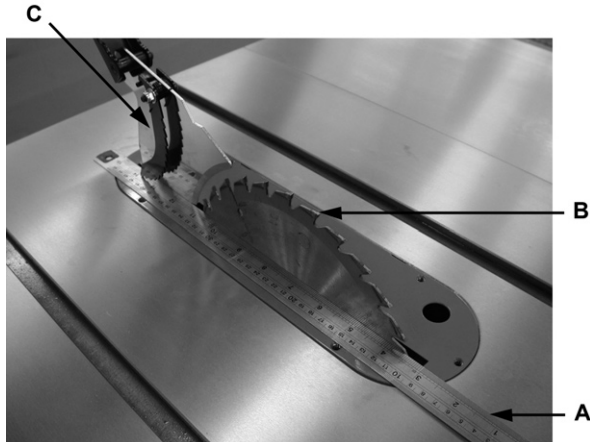

Figure 25
1. Remove the blade guard (not shown) and pawl (C) Fig. 25.
2. Place a straightedge (A, Fig. 25) on the table so it rests against the blade (B, Fig 25) and riving knife (C, Fig. 25). Rotate the blade so the top of the blade tooth touches the straightedge.